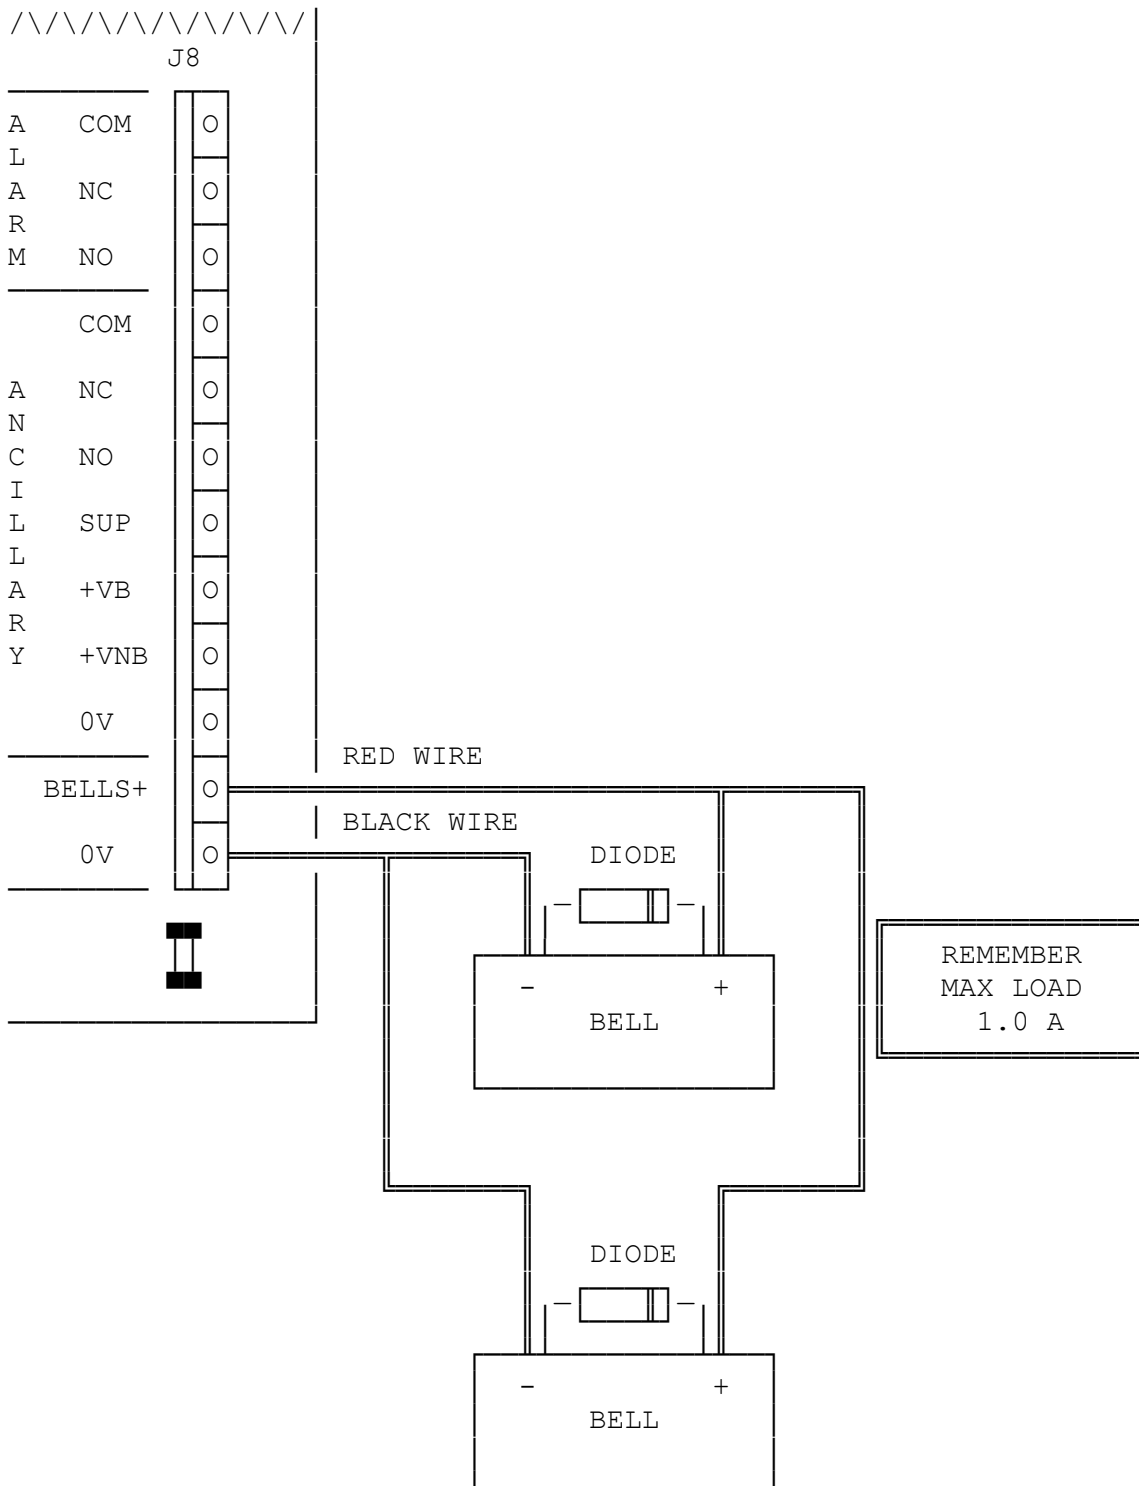

Figure 2.11
- 6) Figure 2.11 shows an example of bell wiring.